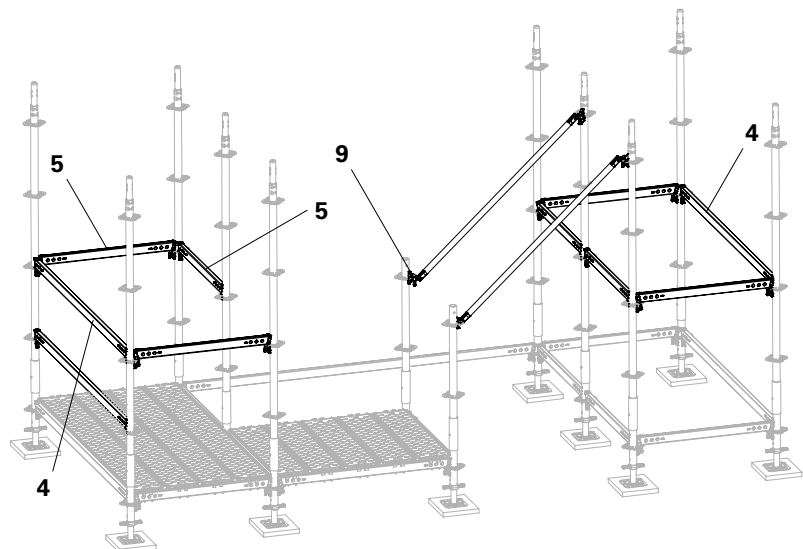

Fig. A8.05
5. Hook in the Horizontal Ledgers UH-2 200 and UH-2 100E (**4 + 5**) and knock them in tight. (Fig. A8.05)